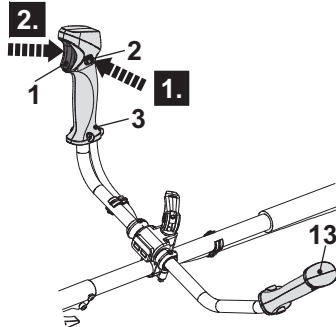

Fig. 20
1. Hold the product with one hand at the lefthandle bar (13) and with the other at the righthandle bar (3).
2. Press the lock-off button (2) and hold it in position (Fig. 20, step 1).
3. Squeeze the on/off switch (1) to switch the product on (Fig. 20, step 2). Release the lockoff button (2) afterwards.
4. Release the on/off switch (1) to switch the product off.